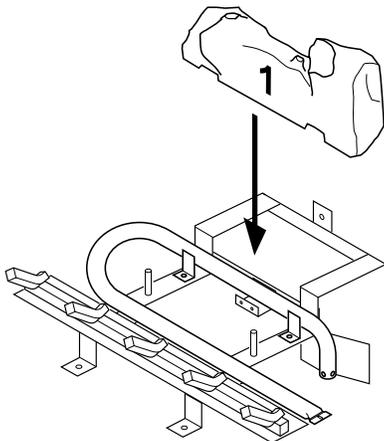

Figure 57 - Installing Log No. 1
2. Place log #1 (back log) on top of grate. Make sure the notches in the bottom of the log fit over the grate (see Figure 57).